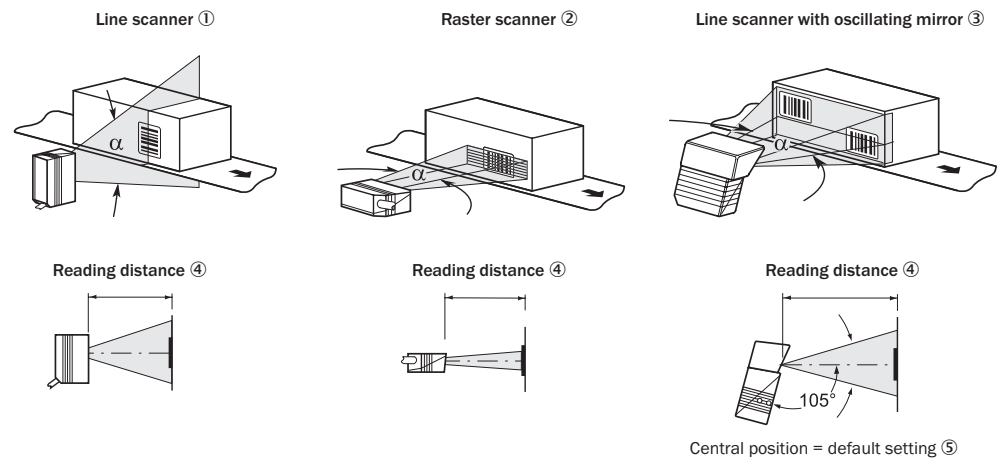

Figure 16: Allocation of scanning line(s) to bar code and conveyor direction
- Reading distance to the bar code and aperture angle  $\alpha$  (see figure 16, page 31).